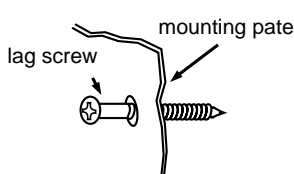

Figure 30
4. Locate the stud holes (3/16") and insert the lag screws through the mounting plate and into the holes. See Figure 30.